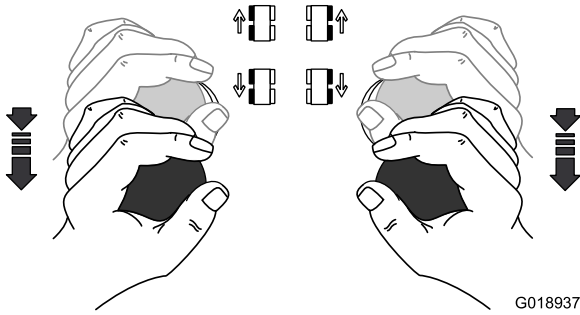

Figure 40
- To move the machine **backward**, grasp the traction-control levers with your hands and pull back on both levers. To stop the machine, return the levers to the neutral position (Figure 40).